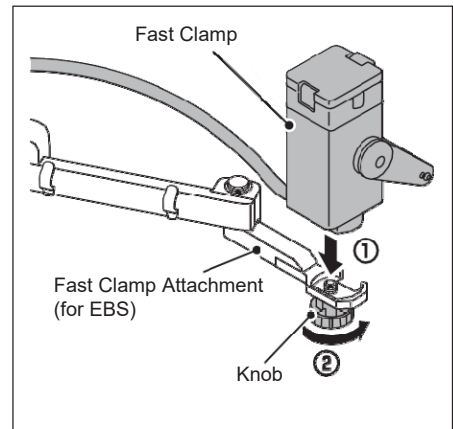

Figure 1-21
- Attach the Fast Clamp to the Fast Clamp Attachment (for EBS) (Figure 1-21 a), and secure it with the knob. (Figure 1-21 b)